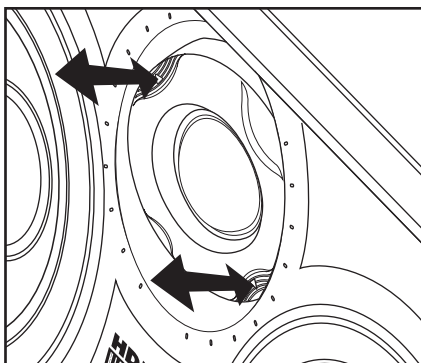

Figure 20. Pivoting the HDLCR's tweeter.
- Pivot the tweeter on each speaker equally by depressing the housing at the arrows until the desired angle is achieved, as shown in **Figure 20**.*